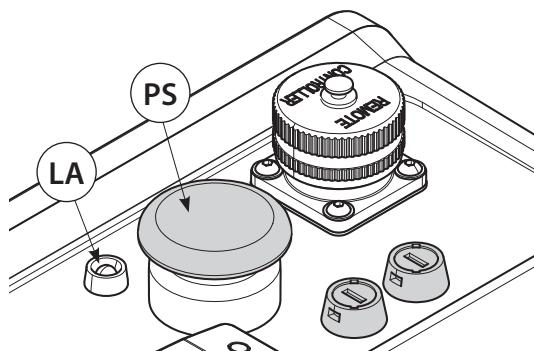

FIG. 3
- *If required, by pressing the mechanical pressure release button (PS) (see Fig.3) on the pump, the oil will return to the reservoir independent of the status of the external power supply.*
The pump is equipped with a self-diagnostic system; the condition of yellow LED (LA) (Fig 3) indicates malfunction *with subsequent interruption to pumping*.